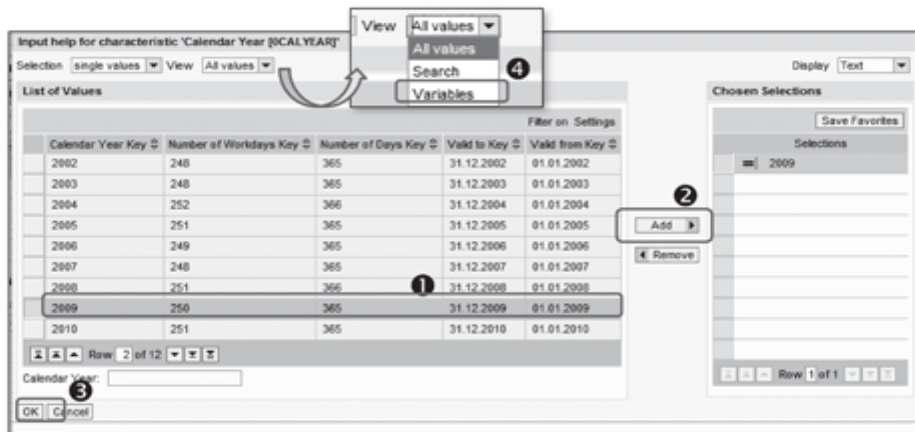

Figure 12.25 Define Selections for Data Slice
6. From the input help screen, select the value 2009 (1 of Figure 12.25), and click on Add (2). Click OK (3).
This is an example of defining a data slice with fixed selection, but you can also use BEx variables to define a data slice. This option can be selected by selecting VARIABLES from the VIEW dropdown (4 of Figure 12.25).